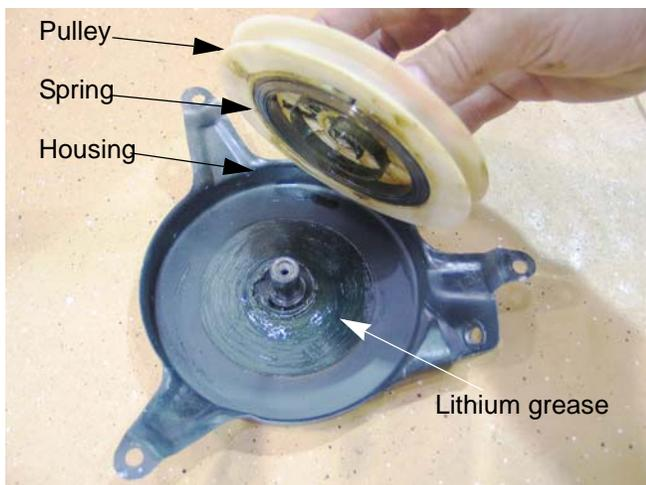

Figure 6.11
4. Carefully lift the spring and pulley out of the recoil housing. See Figure 6.11.